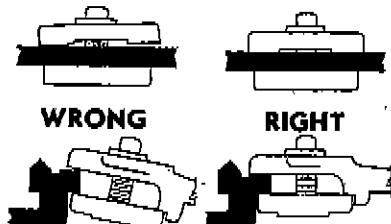

Figure 10
**IMPORTANT**—before clamping bracket to the bed, make sure bracket bears on bed evenly (refer to figure 10). If it doesn't fit evenly, check taper bar alignment to make sure it is parallel with the lathe bed -- refer to step 12. If clamp still doesn't bear evenly on bed, file clamp until it fits properly.